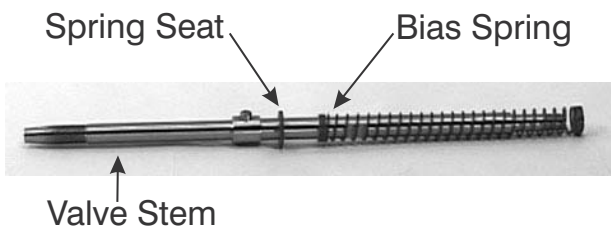

Figure 9-16. Place Bias Spring and Spring Seat on Valve Stem.
1. Collect the Valve Stem (11), Spring Seat (10) and Bias Spring (9) on a clean, flat work bench. Lightly lubricate each of these components prior to assembly.
2. Slide the Spring Seat (10) and the Bias Spring (9) onto the Valve Stem (11) as shown in Figure 9-16.